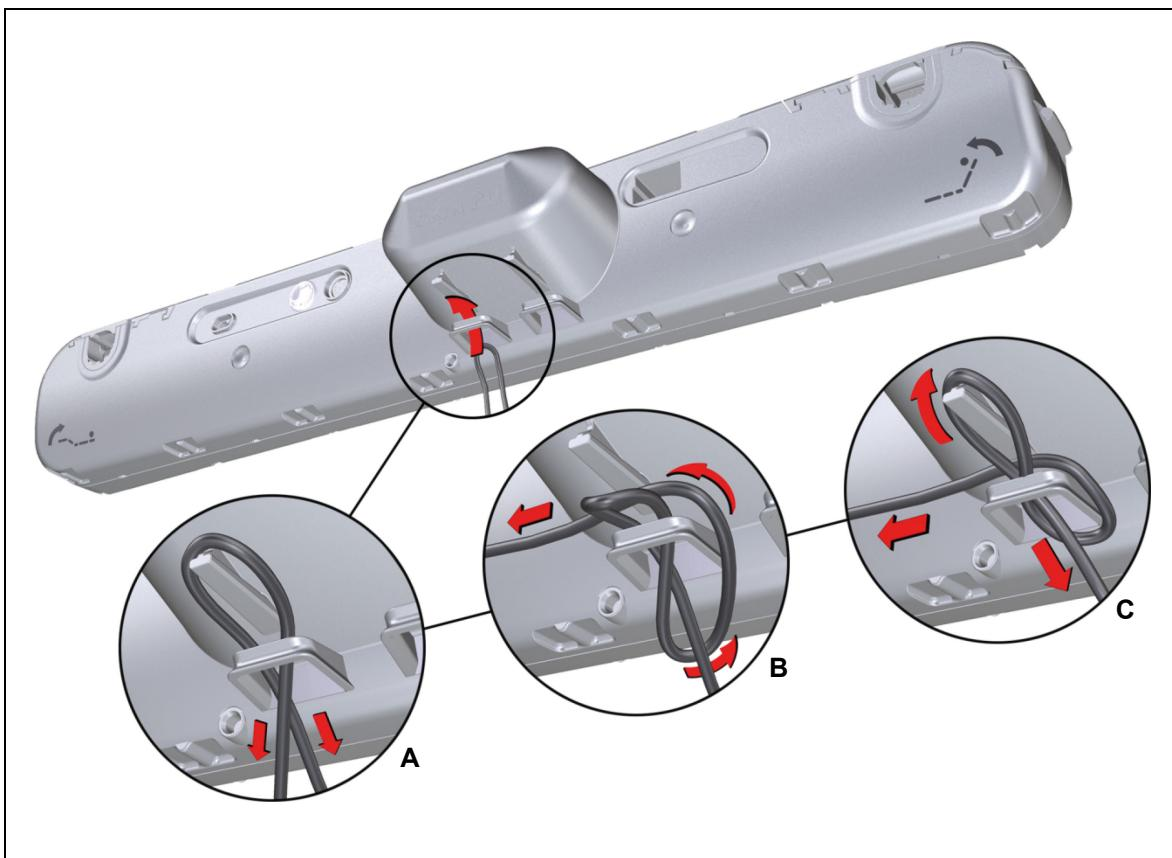

Figure 15      Looping the cable through the strain relief mechanism
- 2 Push the cable in a loop through the strain relief (as shown by **A** in Figure 15).
- 3 Run the right cable strand first under the left strand and then behind and through the loop (as shown by **B** in Figure 15).
- 4 Place the loop over the peg on the drive and pull the loop back slightly (as shown by **C** in Figure 15).